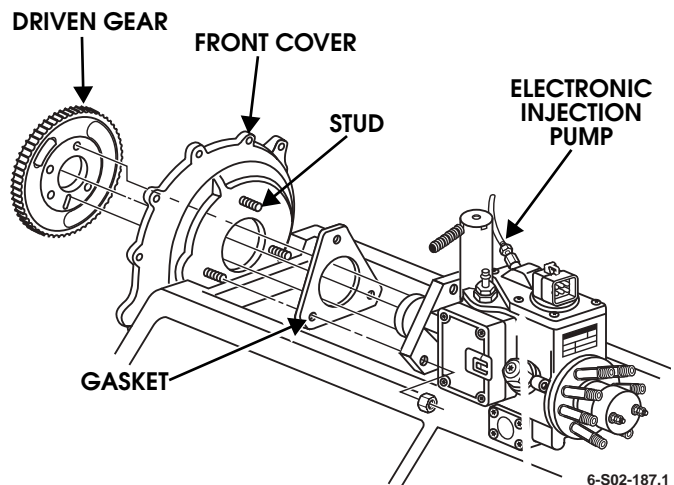

Figure 2-86: Fuel Injection Pump and Driven Gear Removal
2. Remove driven gear attaching bolts and remove gear from fuel injection pump (Figure 2-86).